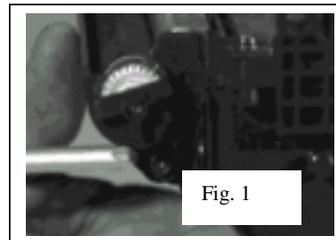
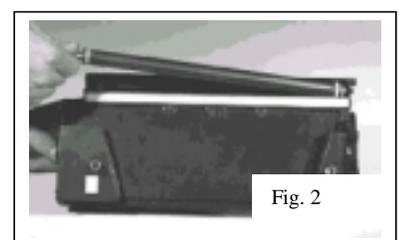

Fig. 1
Fig. 2
1. Remove the Phillips screw from the magnetic roller end cap (**fig.1**). The magnetic roller is held in place with a stabilizing bushing. Remove stabilizing bushing with a small flat head screwdriver. Carefully lift the magnetic roller up and pull out of opposite end cap (**fig.2**).